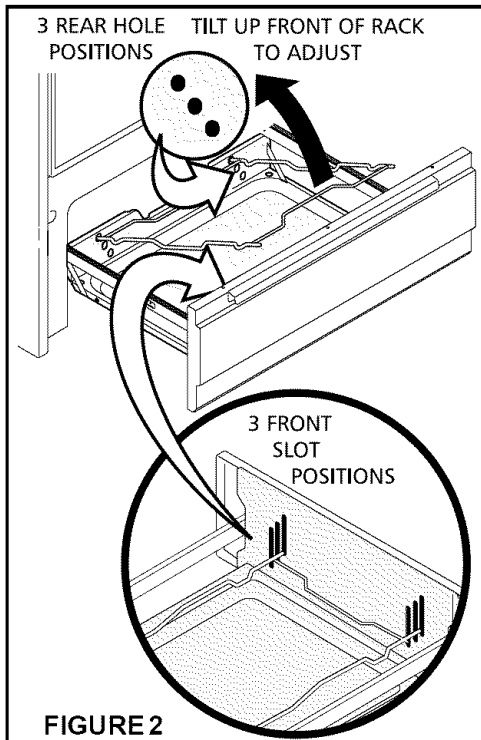

FIGURE 2
4. Position rack by tilting front of rack up and pulling rack out from locating holes in rear of broiler drawer. Reposition back of rack in the desired locating holes and allow front of rack to slide down into the corresponding slots in front of broiler drawer, Figure 2.
2. Remove 2 screws located on the inside of the oven door liner (See A Fig. 2)
3. Insert the 2 screws into the door hinge holes located on the side of the hinge arm, one into each hinge (See B Fig. 2).